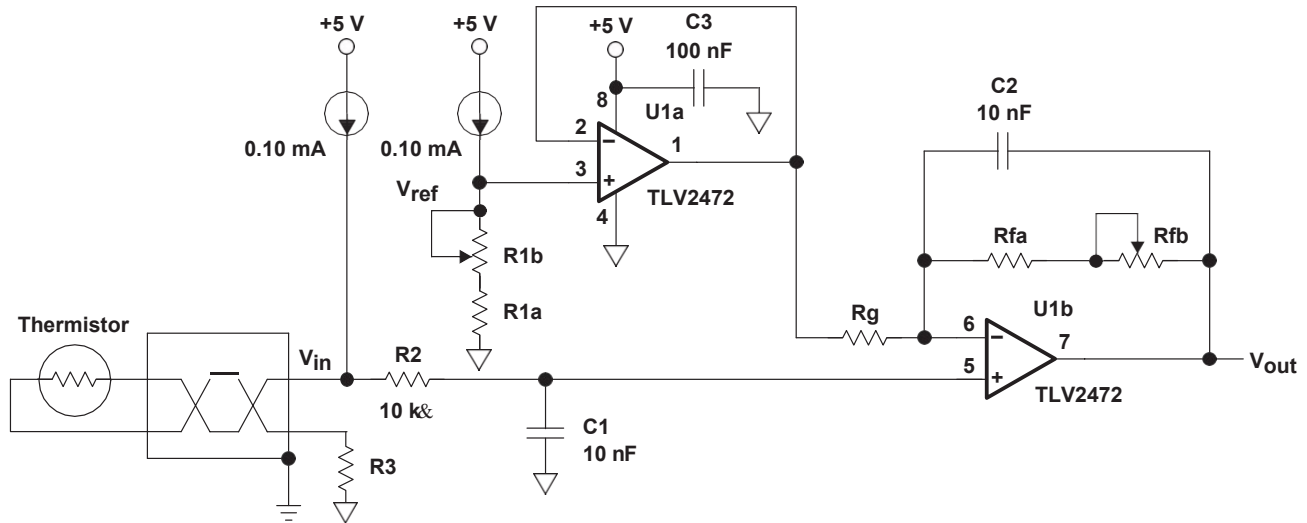

Figure 1. Schematic of Thermistor Temperature Transducer Application
Figure 1 is a schematic diagram of the op-amp circuit for this application.
The basic voltage signals and resistors in Figure 1 are defined in equations (3), (4) and (5).